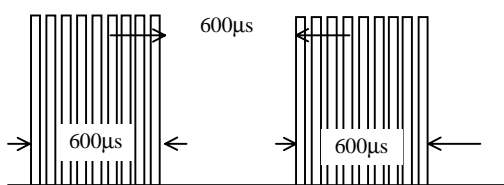

Fig 1. Burst Wave
- (1) Measuring place .....Indoor without extreme reflection of light.
- (2) Ambient light source... Detecting surface illumination shall be  $200 \pm 50$  Lux under ordinary hite fluorescence lamp of no high frequency lighting.
- (3) Standard transmitter ... Burst wave indicated in Fig 1. of standard transmitter shall be arranged to 50mVp-p under the measuring circuit specified in Fig 2.